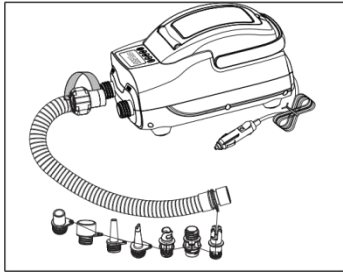

Fig 1
- * Connect the end with flexible conduit adaptor of the hose with the air pump inflation inlet and twist clockwise to tighten it (Fig 1).